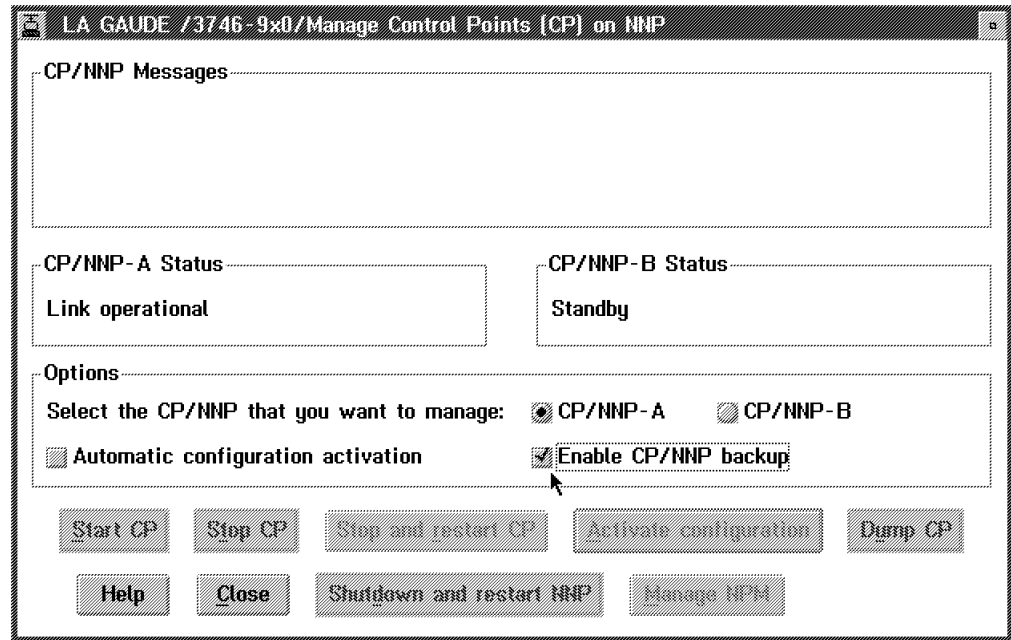

Figure 11-1. Manage the Control Points
- b. Set or reset the automatic configuration activation, refer to Figure 11-1 on page 11-5.
- c. Enable the CP/NNP backup if the NNP-B. is installed, refer to Figure 11-1 on page 11-5.